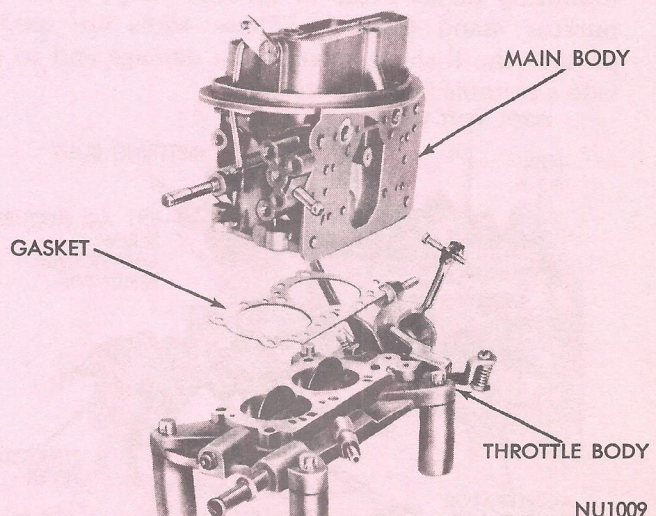

Fig. 10—Removing or Installing Main Body
(9) With carburetor inverted, remove five screws that attach throttle body to main body (Fig. 10). Remove throttle body and discard gasket.